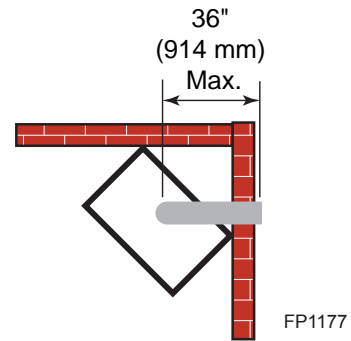

Figure 19 - Maximum Horizontal Run with No Rise
- A minimum of 36" (914 mm) is required before a 90° elbow. *Figure 19*
7. Level the soil so as to maintain a 4" clearance below snorkel. Figure 19